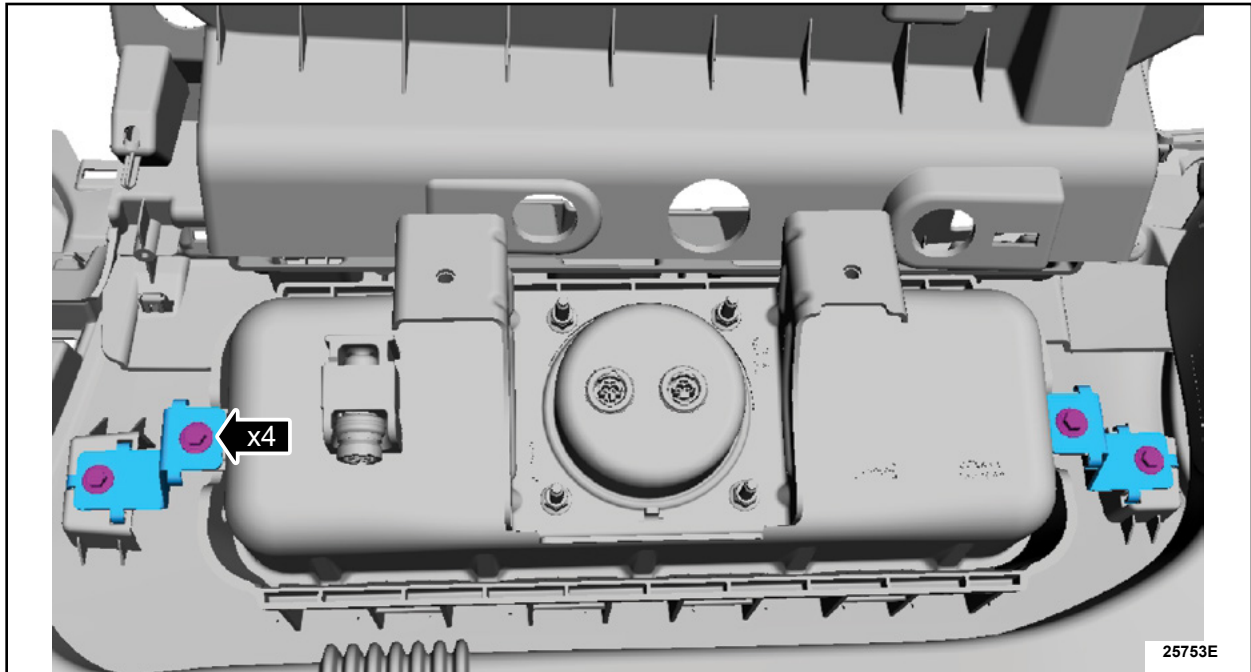

FIGURE 11
13. Install the passenger airbag anti-rattle brackets and screws. See Figure 11.